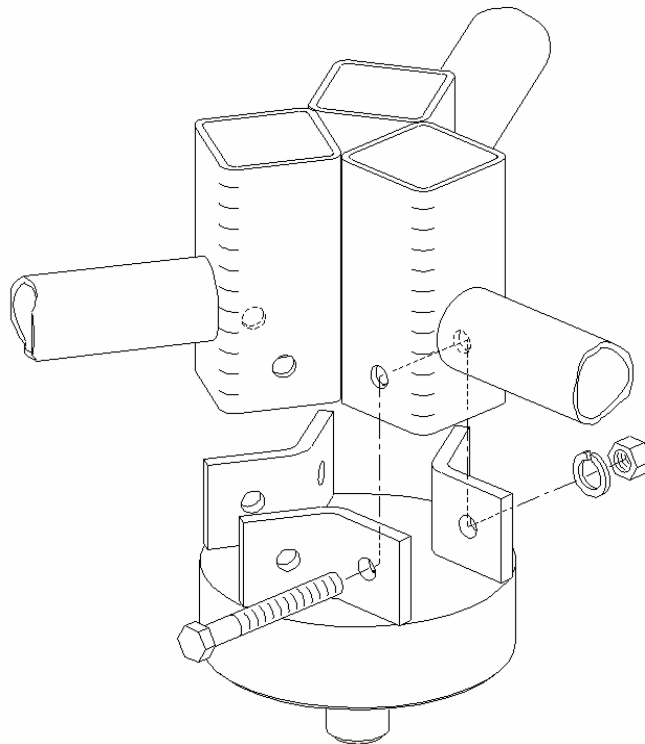

Figure 10
2. Attach lower flange to rotor assembly using three screws 3/8" - 16 X 3", three lock washers, and three nuts. Repeat for right and left side rotor assemblies. See Figure 10.